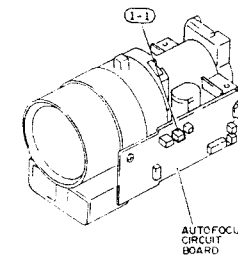

Fig. 2-102
- Disconnect connector on the autofocus circuit board. (See Fig. 2-102)